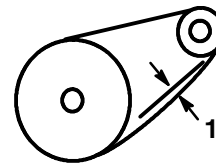

Figure 32
4. Check the deflection of the chain by lifting up on chain with moderate pressure at the mid span. There should be 1/8 to 3/8 inch (3 to 10 mm) deflection (Fig. 32).